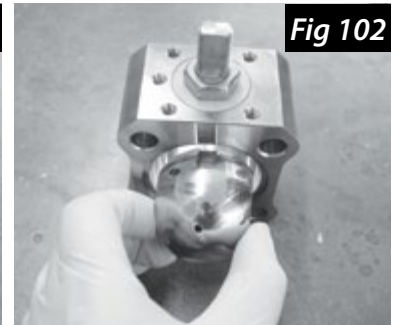

Fig 102
5. If you have not already done so, rotate the valve stem and ball to the "closed" position to remove the ball. Gently push the ball to remove it from the center section of the valve (Fig 102). Place the ball in a safe location for reuse or if replacing the ball it can now be discarded. **Note: If the ball is damaged due to corrosion or some other means, you can purchase a new one by contacting A&N Corporation's sales department.**